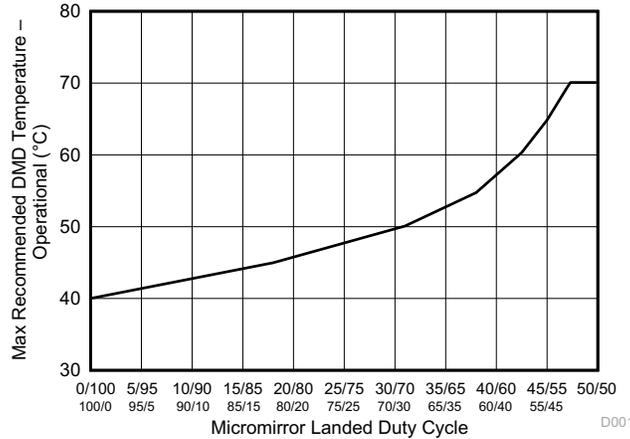

Figure 7-1. Maximum Recommended DMD Temperature – Derating Curve
- (6) Per Figure 7-1, the maximum operational case temperature at test points TP1 and TP2 as shown in Figure 8-3 or Figure 8-4 should be derated based on the micromirror landed duty cycle that the DMD experiences in the end application. Refer to Micromirror Landed-on/ Landed-Off Duty Cycle for a definition of landed duty cycle.
- (7) Long-term is defined as the average over the usable life.